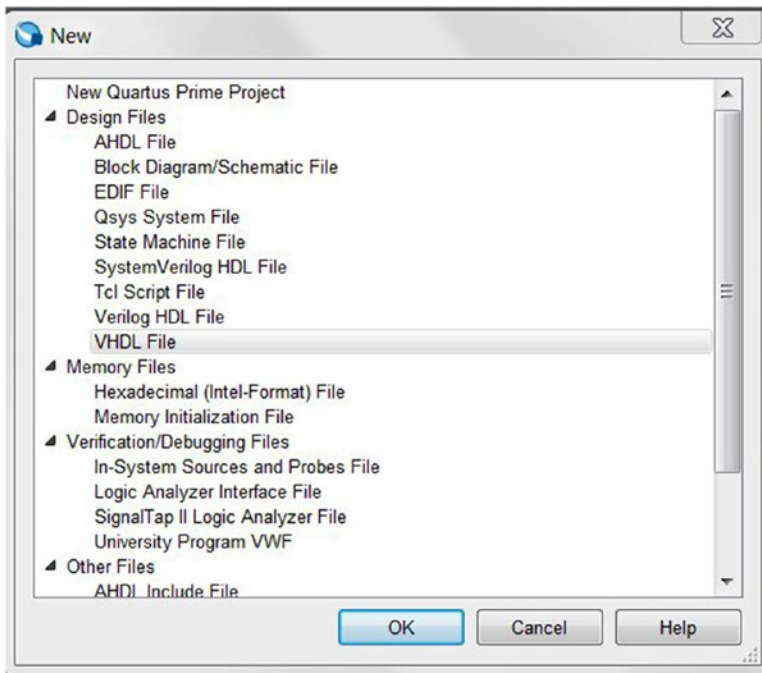

Figure 8-4. Add New VHDL file in Quartus Project
3. Select **VHDL File** and Click **OK** (Figure 8-4).